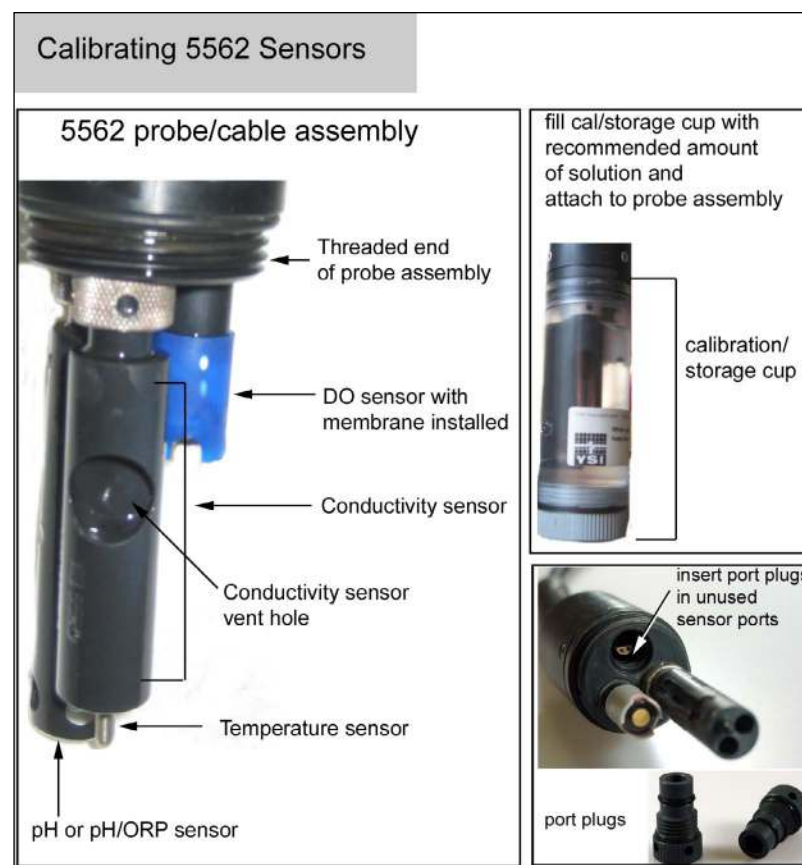

Figure 4.5
Use the calibration/storage cup, figure 4.5, for all 5562 sensor calibrations. To avoid cross-contamination of solutions, rinse the calibration/storage cup between calibrations. Additionally, rinse each sensor with a small amount of calibration solution that can be discarded before placing the sensor in the calibration cup. Sensors must be immersed in solution when calibrating Conductivity, pH, and ORP. The recommended amount of calibration solution is provided in the sensor specific calibration instructions.
- Insert port plugs into unused sensor port(s) - figure 4.5.
See figure 4.5 to determine which sensor is the conductivity sensor. The conductivity sensor calibration is a one-point calibration. Calibrate using a traceable conductivity solution that has a value close to the conductivity value of the water system to be monitored.
4. Carefully immerse the sensors into solution. Ensure that the top vent hole of the conductivity sensor is fully immersed in the solution - figure 4.5, page 77.
To determine which sensor is the DO sensor, See YSI probe assembly 5562 - figure 4.5, page 77 or YSI probe assembly 5561 - figure 3.11, page 35.
The ORP sensor - figure 4.5, page 77 - is calibrated with a one point calibration.